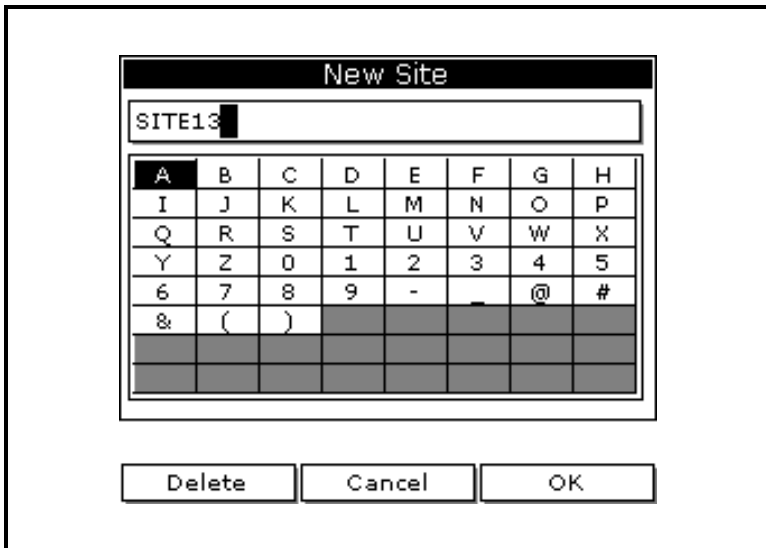

Figure 6-1: Name Entry Window for a New Site
1. Use the arrow key to scroll to **New** and press [ENTER]. The screen appears similar to Figure 6-1 below.